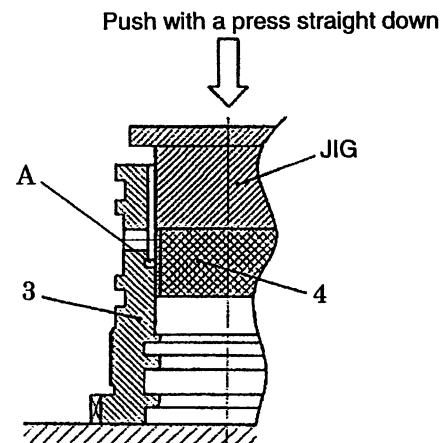

Fig. 1-22 Pressing in bushing
- (1) Press fit bushing (4) in rod cover (3) applying jig on the section. After press-fitting, check that the bushing is not projected from the end surface (A). (See Fig.1-22.)
- (2) Fit snap ring (5).
- (3) Fit backup ring(8) on U ring groove.
- (4) Apply hydraulic oil on U ring (7) and fit it on the U ring groove.
- After fitting backup ring (8) and U ring (7), check that they are free from the permanent set.